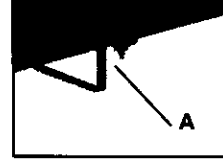

Fig. 1
**Drain Valve (A) Fig. 1:** The drain valve is located at the base of the air tank and is used to drain condensation at the end of each use.